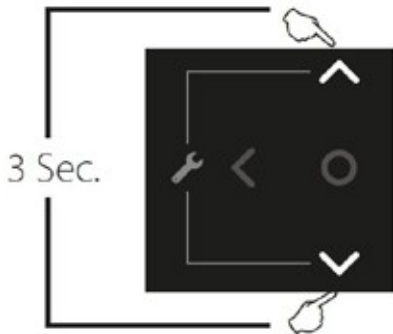

Fig. 1: Installer Button
| Fig. 1: Installer Button..... | 3 |
1. To access the Installer screen, touching simultaneously the up and down soft keys for 3 seconds as shown in Fig. 1.